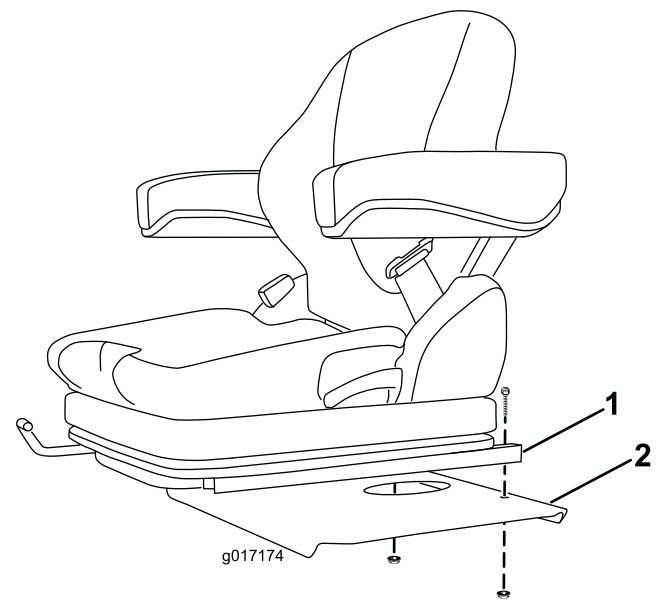

Figure 4
1. Mount the rear of each seat slide to the seat base with a bolt and flange nut (Figure 4).